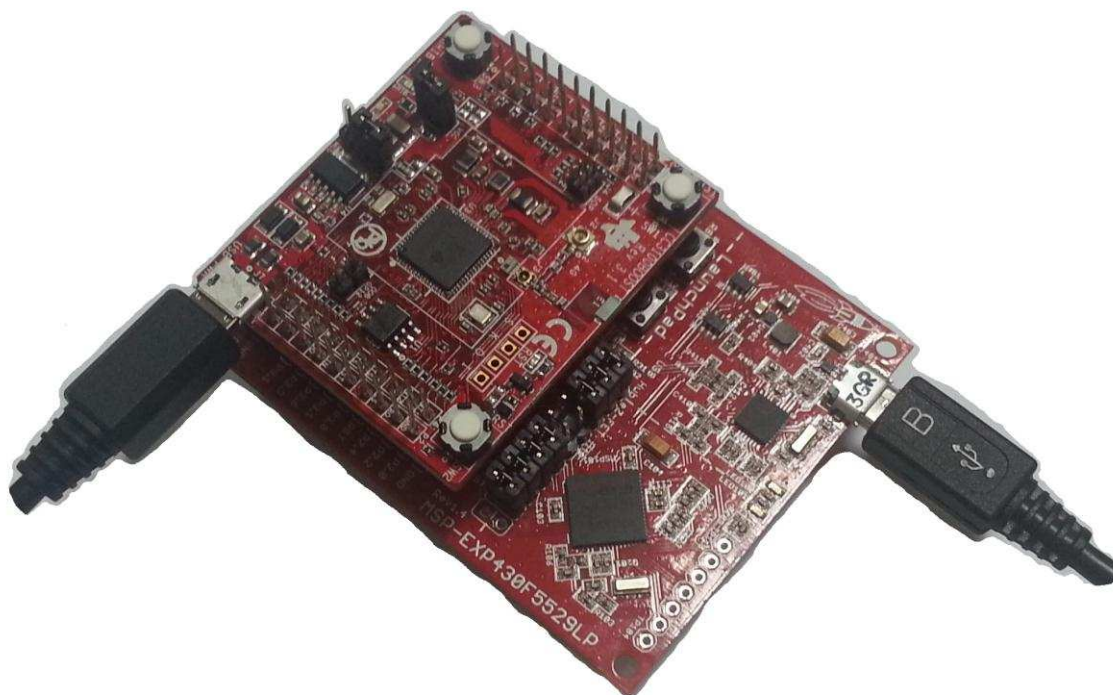

Figure 2. Mounting CC3100 BoosterPack
1. Mount the CC3100 BoosterPack on the Launchpad as shown in Figure 2. Make sure it is correctly connected.